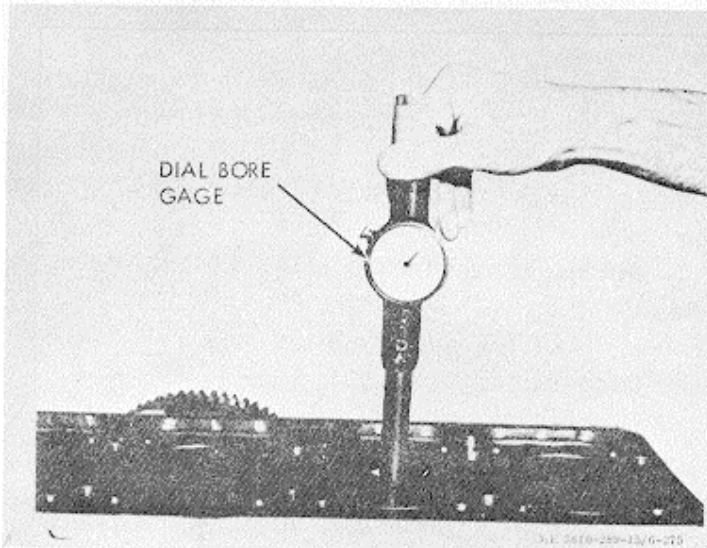

Figure 3-266. Cylinder liner bore inspection.
(5) Inspect worn liners with dial bore gage (fig. 3-266). If liners are worn more than 0.004 in. in excess of new liner maximum diameter, replace or hone to next oversize. See table 2-2 for new liner dimensions. Pistons for oversize liners are available in 0.020, 0.030 and 0.040 in. oversizes.